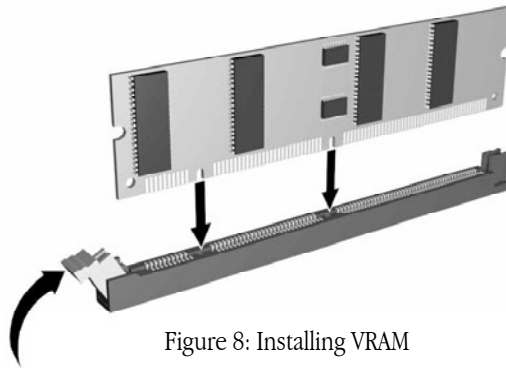

Figure 8: Installing VRAM
2. Lower the DIMM squarely into the slot so that the notches in the DIMM line up with the notches in the slot. Slide the contacts straight into the slot and make sure the contacts are firmly seated. (see **Figure 8: Installing VRAM** on page 12). When properly seated, the contacts on the bottom should not be visible.